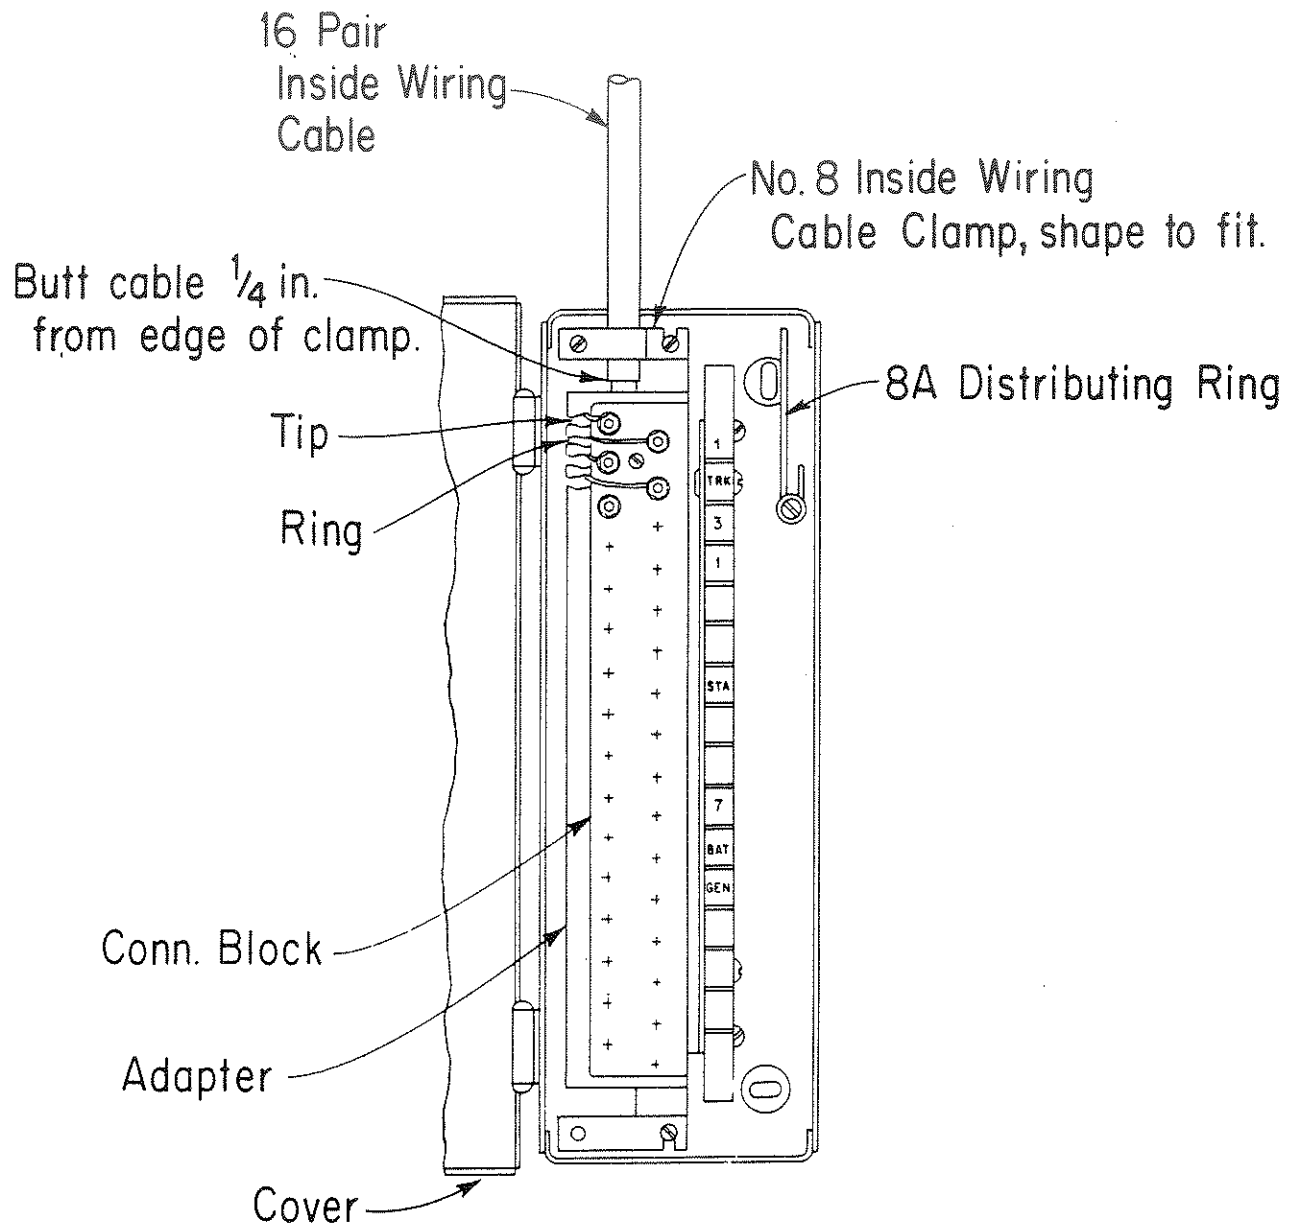

Fig. 1 - Typical Arrangement for 507A PBX with Prefabricated Sheet Metal or Die-Cast Aluminum Chassis
4.04 Install cross-connecting terminal box and place connecting block and adapter in terminal. See Figs. 1, 2, and 3 for typical arrangement.
- 4.06** Strip the end of the cable to be placed in the cross-connecting terminal and butt as shown in Figs. 1, 2, and 3.
- 4.08** Letter and number fanning strips, using 3/16-inch rubber stamps, as shown in Figs. 1, 2, and 3. When connecting blocks are used which have the ring terminal positioned above and to the right of the tip terminal, transpose the designations for single leads.